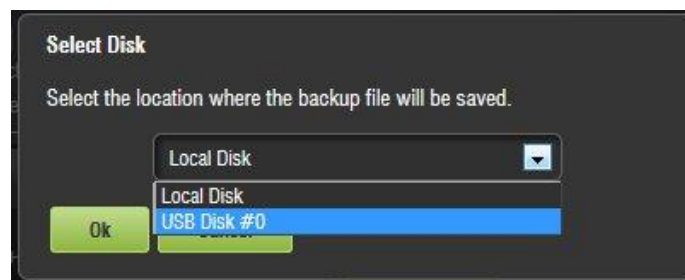

Figure 199: Select Location of Backup File - USB
- Select the USB from the drop down and click on the Ok button (Figure 199).